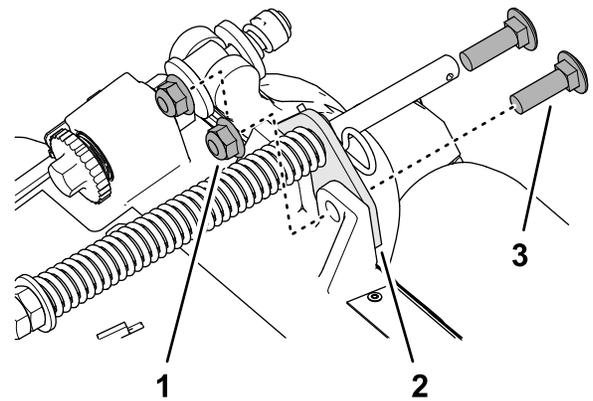

Figure 11
2. Remove the 2 flange locknuts (3/8 inch) and 2 carriage bolts (3/8 x 1-1/4 inches) that secure the turf-compensator bracket to the cutting-unit frame (Figure 11).